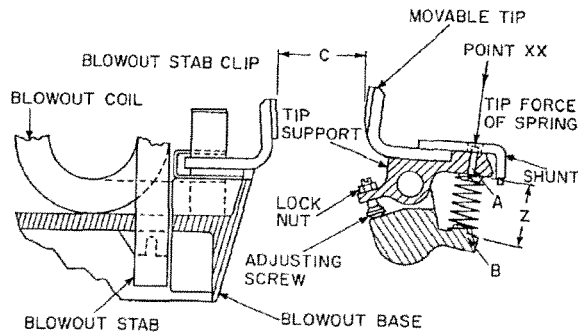
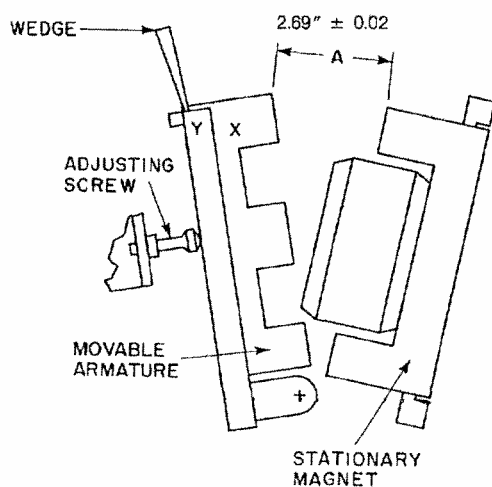

Fig 14. Movable and stationary contact structures
Fig. 15. Magnet structure (ac and dc)
1. (See Fig. 14 and Fig. 15.) With the contacts just touching, measure the magnet gap “A” per Fig. 15. If the gap is less than 0.23 inch, replace both the movable and stationary contacts. Contacts not replaced at this time may overheat or weld together. Wedge the top of the armature away from its supporting bracket as far as it will go (see Fig. 15) when measuring the “A” dimension.
The contacts are adjusted to make at the same time within 1/64 inch. When replacing the contacts, check this adjustment by picking up the contactor mechanically until the contacts of the first pole are just touching each other. The maximum gap between the contacts of any other pole of a contactor must not exceed 1/64 inch. Adjust the movable-contact position to obtain this requirement as well as the wipe per Table 2, by means of the set-screw in each movable-tip support. The set-screws should be locked in their final position by means of their locknuts (see Fig. 14).
then be easily measured directly over the spring seat as shown in Fig. 14.
Contact gap "C" (see Fig. 14) must be 1.00 inch per Table 2. The "C" dimension can be obtained by slightly moving the back-stop adjusting screw. When the "A" dimension with tips fully open and just touching and the "C" gap are obtained, the initial and final contact forces should be properly set without further adjustment.